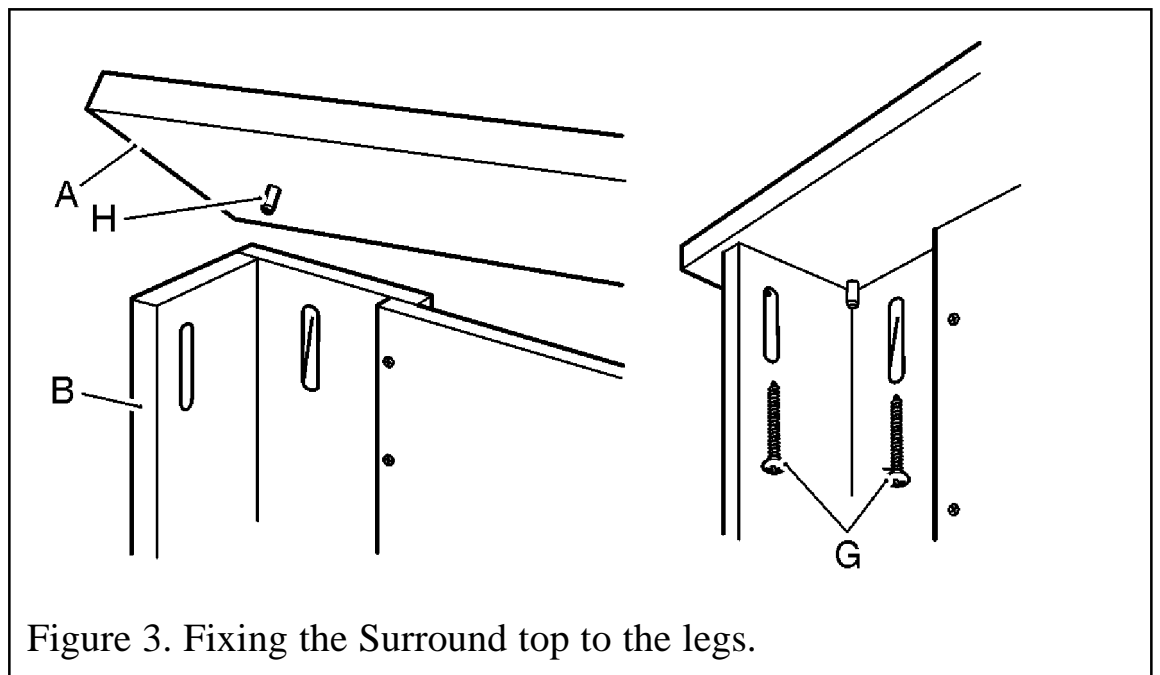

Figure 3. Fixing the Surround top to the legs.
- Take the Surround top (A) and insert 2 wooden dowels (H) into the pre-drilled holes on the underside. Place the Surround top (A) on top of the Surround (See figure 3). Ensure that the dowels are located in the internal corners of legs (B) and that the **veneered edge is facing forward**. Screw into place using 4 screws (G) into the pre-drilled holes.